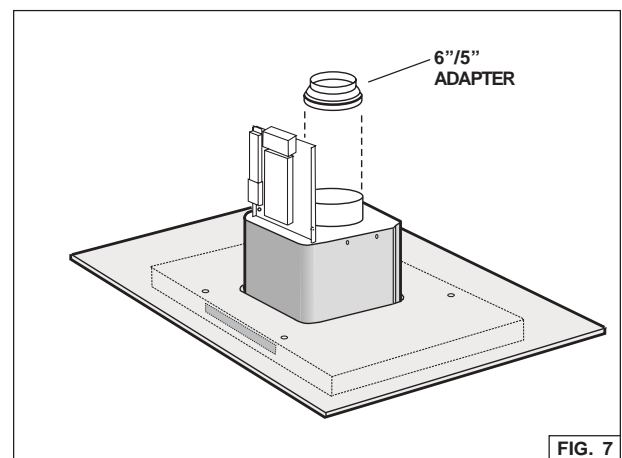

FIG. 7
4. Mount the 6"/5" adapter above hood. Fig. 7.